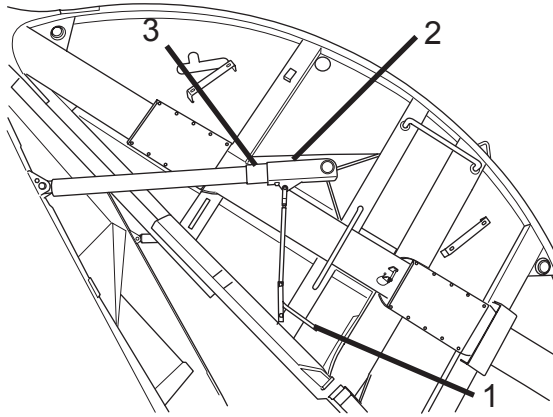

Figure 52
5. Push up on the prop lever (Figure 52, Item 1) to place prop (Figure 52, Item 2) around the cylinder rod. Repeat the procedure for the other side.
- Turn ignition switch to the ON position. Do not start engine. Lower the tailgate until the props (Figure 52, Item 2) are seated against the cylinder barrel (Figure 52, Item 3).